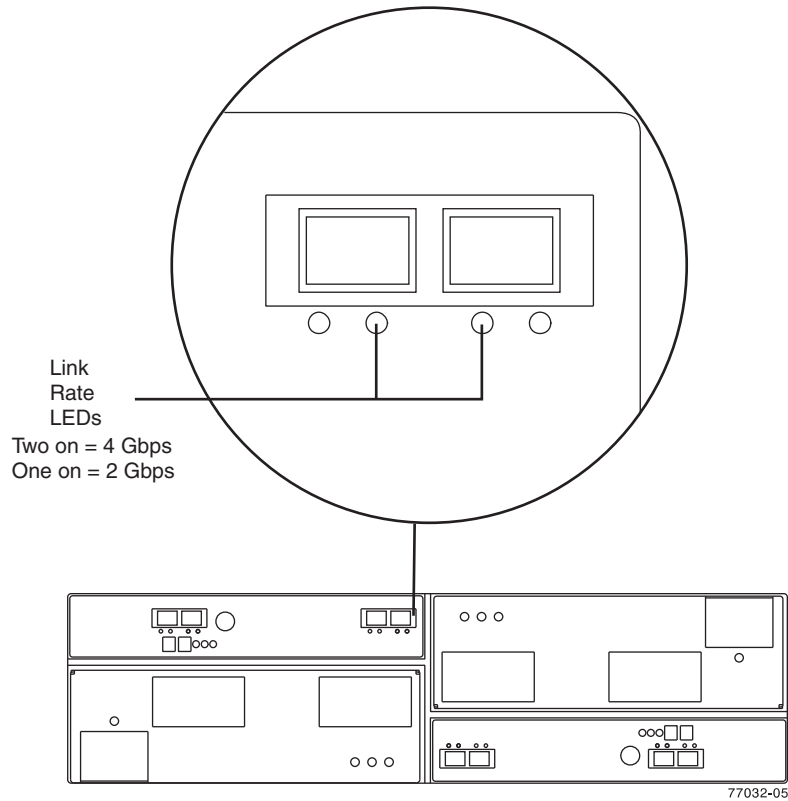

Figure 52. Link rate LEDs
1. Locate the Link Rate indicator LEDs. Figure 52 on page 103 shows the location of the Link Rate indicator lights on the back of the storage expansion enclosure.
4. Locate the Link Rate switch. Figure 52 shows the location of the Link Rate indicator light on the front of the command module.